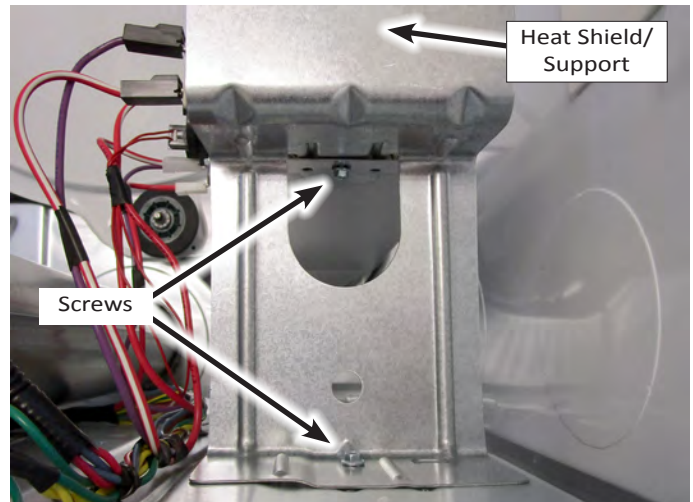

Figure 2 - Heater Shield/Support
4. Remove the screws from the heater shield/support and remove heat shield/support (see Figure 2).